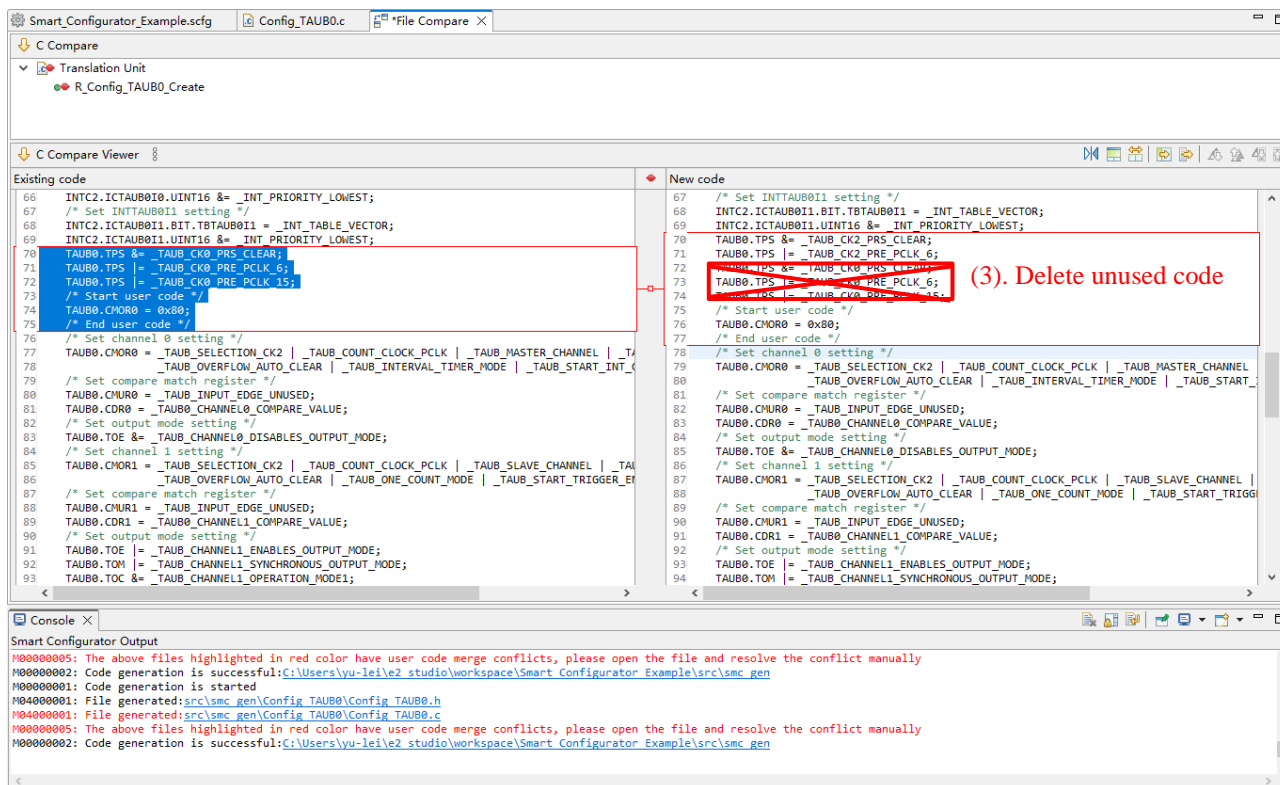

Figure 10-5 Code after Applying “Copy Current Change from Left to Right”
- (3) Delete the codes that user does not want to use (Figure 10-5).